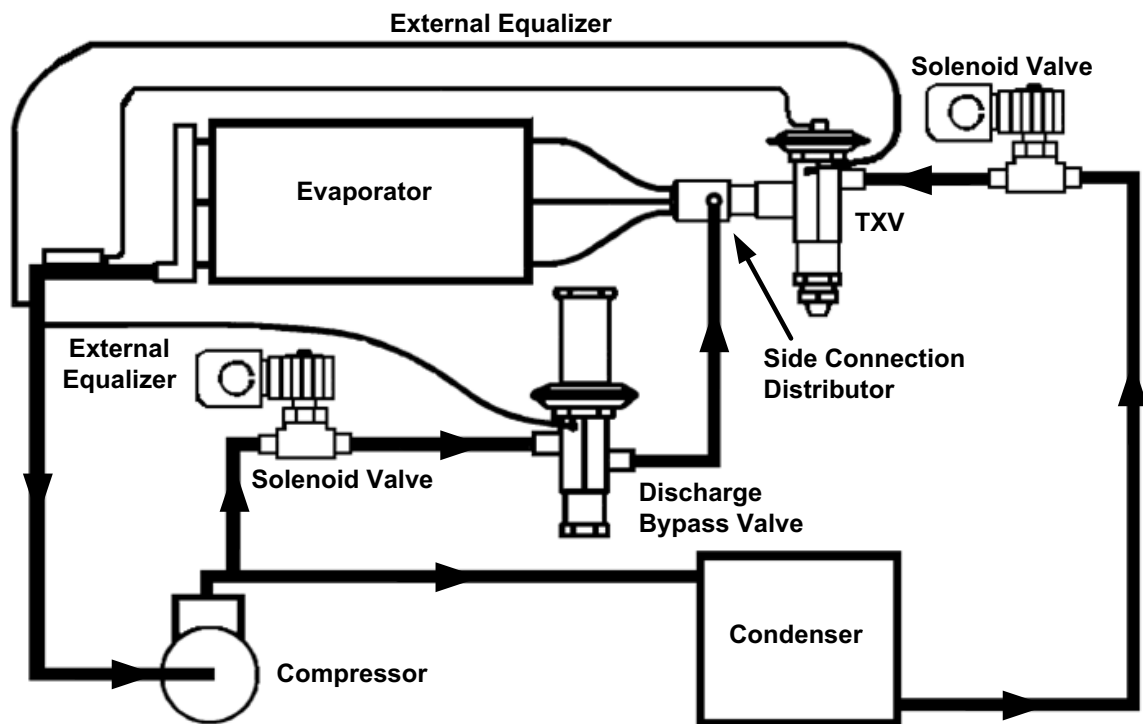

FIGURE 3 - SIMPLIFIED PIPING DIAGRAM
10. From the ADRPE-3 valve run 5/8" line to the side connection on the TXV distributor in the indoor unit. Run new line adjacent to the liquid and suction lines. See Figure 3.
11. Install external equalizer line 1/4" ID (field supplied) from the valve to suction line near the compressor by drilling a small hole and brazing the line in the hole. See Figure 3.